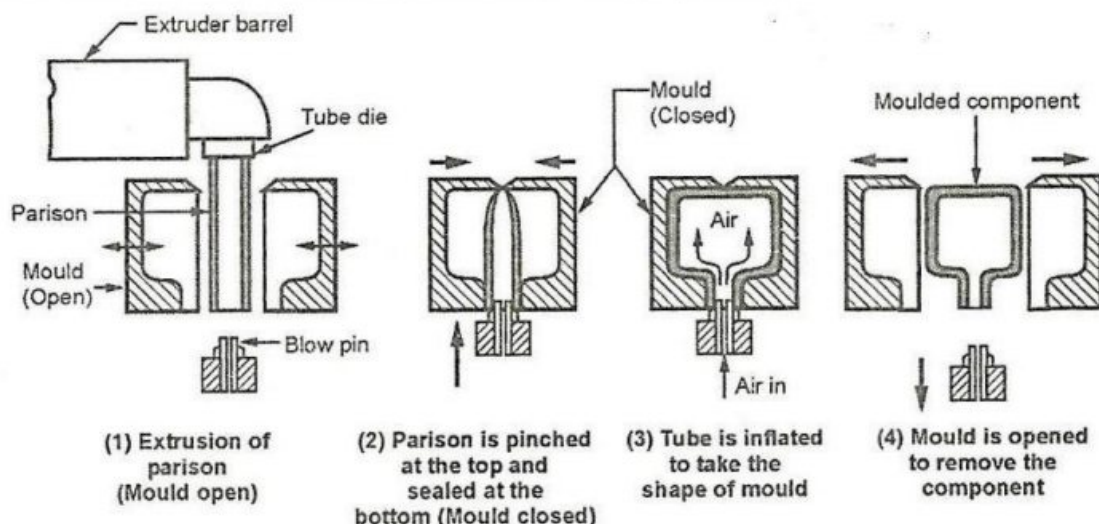

Figure 5.6. Extrusion blow moulding
- Blow moulding consists of extrusion of the heated tubular plastic piece called as Parison which is transferred to the two piece mould, Refer Figure 5.6.